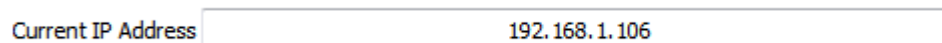

Figure 2-22. DLP LightCrafter GUI Connection Current IP Address Textbox
8. Type DLP LightCrafter's new IP address into the "Current IP Address" textbox. See Figure 2-22.